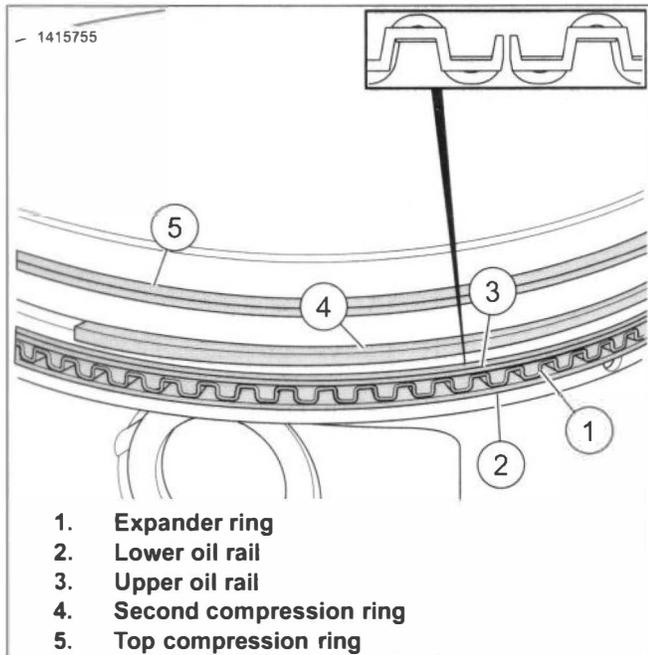

Figure 4-62. Piston Rings
1. See Figure 4-62. Install three-piece oil control ring.
- a. Install expander ring (1) with ends facing up on piston (see inset).
- b. Install lower oil rail (2).
- c. Install upper oil rail (3).